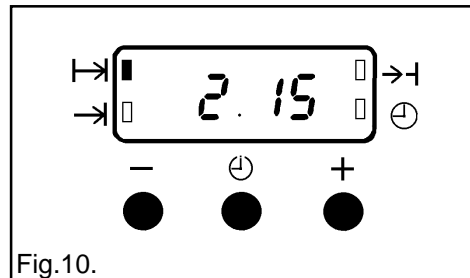

Fig.10.
- iii) To set the length of cooking time, press the Selector Control button until the 'Cook Time' (T→) indicator is illuminated. Press the increase control ( + ) until the required length of cooking time is displayed, e.g. 2 hrs 15 mins as Fig. 10. Depress the decrease control ( - ) if necessary.